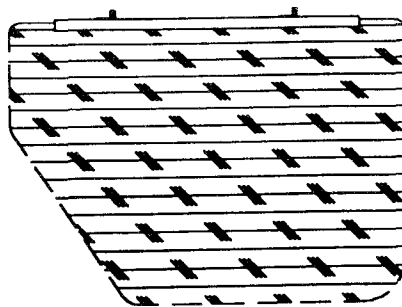

Fig 7
8. Using glass setting tape provided, install new bottom glass channel (provided) as shown in (Fig 7). Install channel close to center. Reinstall the glass in the door and hold it in the up position by either scotching it with a piece of rubber hose wedged between the glass and inner panel or have someone hold it.